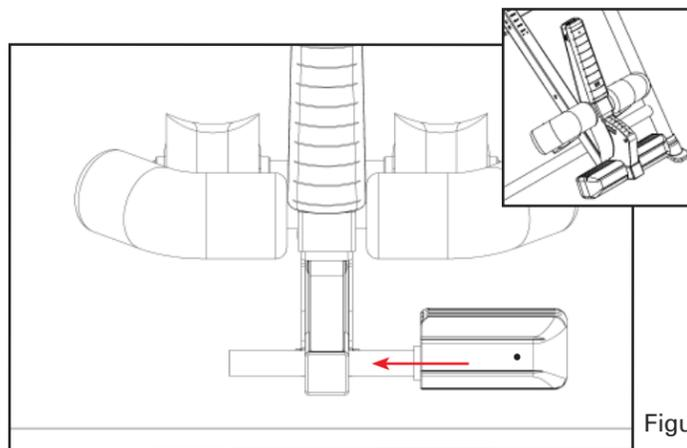

Figure 18
- Slide the Foot Bar (IA-1119) with one pre-assembled Foot Piece (IA-1118) in the hole below the ratchet (Figure 18).
- Slide the other Foot Piece onto the Bar (Figure 18).